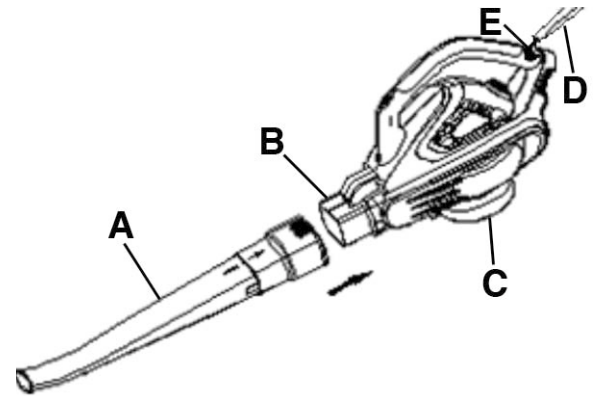

FIGURE 4
Align the grooves on the blower tube (A) Fig.4 with the grooves on the blower outlet (B). Push the blower tube onto the blower outlet until it clicks into position.
It is recommended to install the adjustable shoulder strap (D) Fig.4 to the blower handle (E).
It is recommended to install the adjustable shoulder strap (D) Fig.4 to the vacuum/mulcher handle (E).